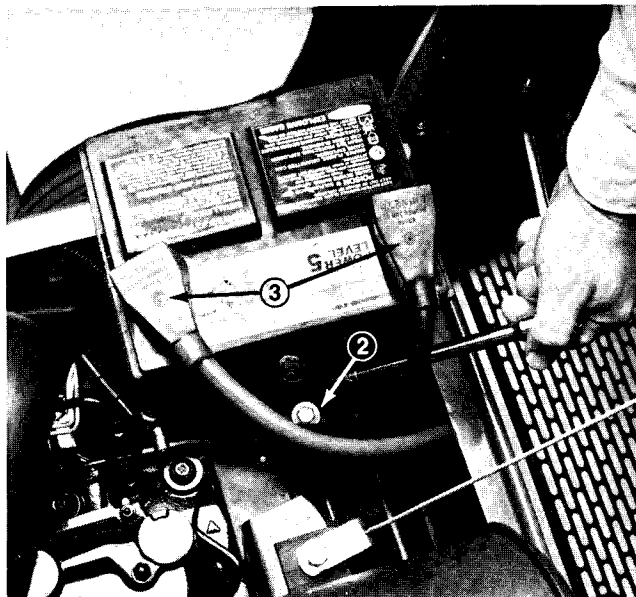

Figure 8a
**IMPORTANT:** Before welding on the machine, disconnect the negative (-) battery cable from the battery to prevent damage to the electrical system (Fig. 8a).
Check the battery condition every week or after every 50 hours of operation (Fig. 8a). Keep the terminals and entire battery case clean. To clean the battery, wash the entire case with a solution of baking soda and water. Rinse with clear water. Do not get the soda solution into the battery because damage to the battery will result. Coat the battery posts and cable connectors with skin-over grease, or petroleum jelly to prevent corrosion.